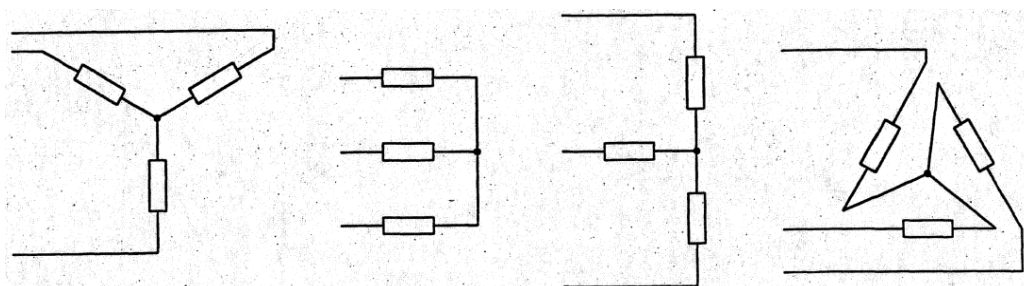

Figure 5 – Methods of drawing a star connection
- 17 In the three phase star connection the finish of each coil group or heating element is connected to a common point known as a 'star point'. There are several ways of drawing s star connection as shown in Figure 5.